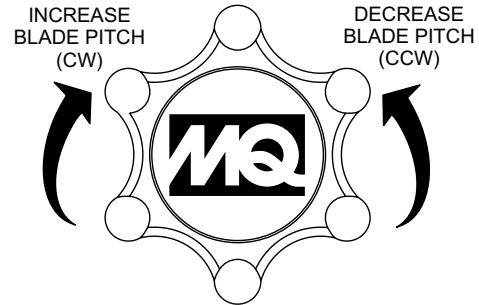

Figure 9. Blade Pitch Star Wheel (Standard Handle)
1. For **Standard Handle** models extend the pitch cable to maximum length by turning the blade pitch star wheel (Figure 9) fully counterclockwise for no pitch (blades flat).